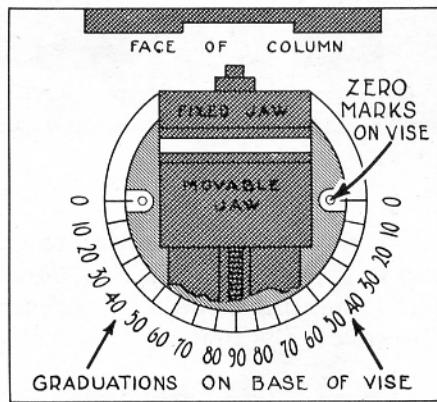
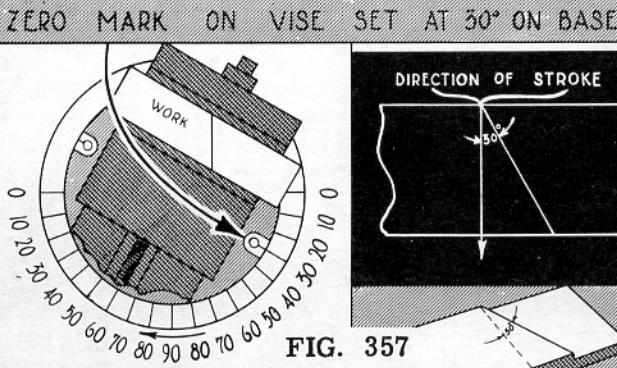
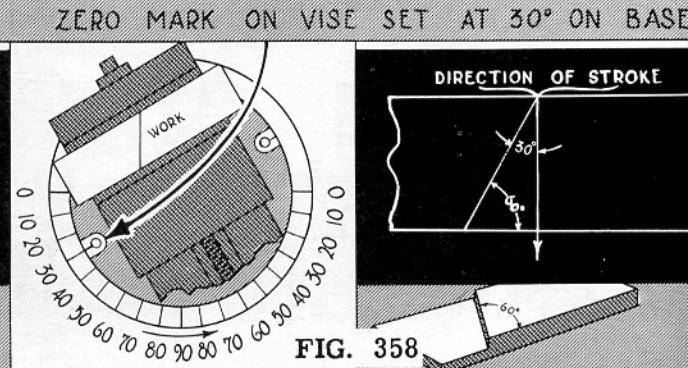

FIG. 356
FIG. 357
FIG. 358
The graduations on the base of the vise are arranged as in Fig. 356 so that when the jaws are set parallel with the column of the shaper, the two zero marks on the vise coincide with the two zero graduations on the base. This may be used as a starting position from which the vise may be swung either to the left or to the right for angular cutting. The angle at which the vise must be set depends upon the angular relation of the required angle to the stroke. In other words, the angle that the cut makes with the direction of the stroke is the angle at which the vise is set.
For example, the job represented in Fig. 357 has an angular cut at 30° . Assume that the work is in the vise in the position shown and the vise at the zero position (Fig. 356). By swiveling the vise 30° to the left as illustrated in Fig. 357, the work then will be in a position for the tool to take an angular cut of 30° as indicated.
The angle that the cut makes with the direction of the stroke is not always shown on the drawing. The angle may be indicated as 60° in the manner shown in Fig. 358. It is obvious that the cut makes an angle of 30° with the direction of the stroke.
In the diagram (Fig. 358), if a line is drawn representing the direction of the stroke, it will form a right triangle. The edge of the cut is the second side; the edge of the work is the base. Since the triangle now contains a 90° and a 60° angle, the third must be 30° .
The vise then is swiveled 30° to the right. The following rule can be used to determine in which direction to swivel the vise. Whenever the edge of the cut slopes from left to right from the vertical position (Fig. 357), the vise must be swiveled to the left. Oppositely, whenever the edge of the cut slopes from the right to the left of the vertical position (Fig. 358), the vise must be swiveled to the right.
1. Draw or use an imaginary line to represent the direction of the stroke (Fig. 358). This will form a 90° triangle with the given angle as one of the angles in the triangle. Since the three angles of a triangle are equal to 180° , the third angle is found by subtracting the given angle and the right angle (90°) from 180° .